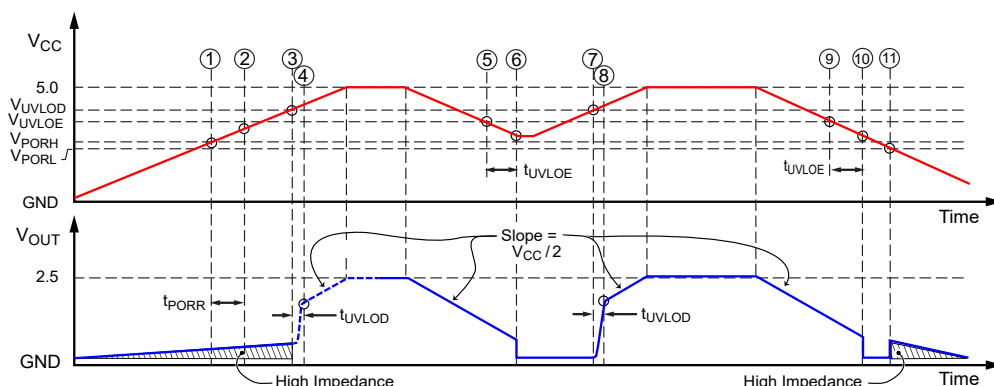
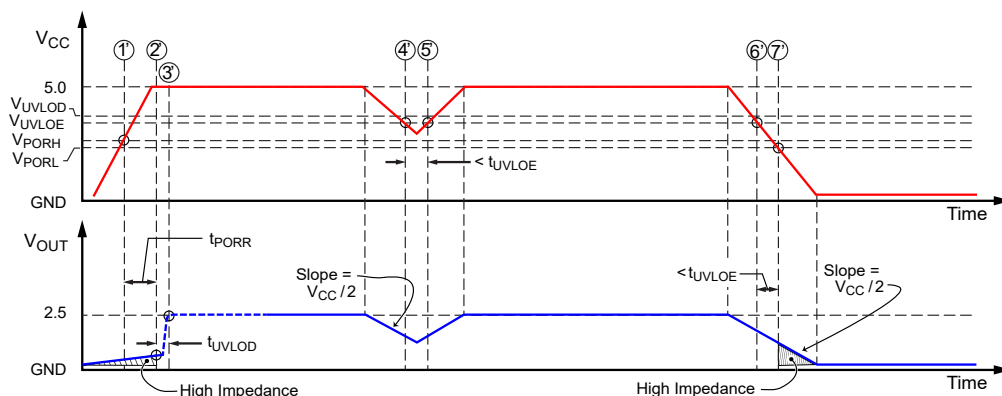

Figure 43: POR and UVLO Operation, Slow Rise-Time Case, 5 V Variant
Figure 44: POR and UVLO Operation, Fast Rise-Time Case, 5 V Variant
**Power-Up.** At power-up, as  $V_{CC}$  ramps up, the output is in a high-impedance state. When  $V_{CC}$  crosses  $V_{PORH}$  (location [1] in Figure 43 and [1'] in Figure 44), the POR release counter starts counting for  $t_{PORR}$ . At this point, if  $V_{CC}$  exceeds  $V_{UVLOD}$  [2'], the output goes to  $V_{CC}/2$  after  $t_{UVLOD}$  [3'].